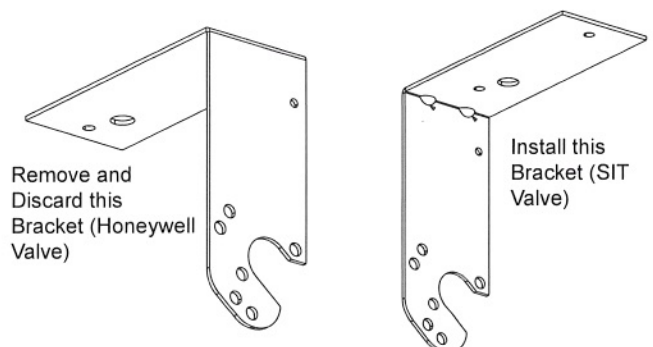

Fig. 1 DV580 Valve Bracket
2. Install new valve bracket (if removed). Refer to Figures 1 for correct bracket.